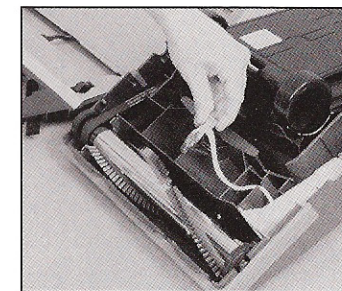

Fig. 19
2. Remove the headlight bracket by pulling upward on bracket [Fig. 19]. To remove the light bulb, pull straight out of socket. To install new bulb, simply push bulb straight into socket for a secure fit. Reinsert bracket back into nozzle.